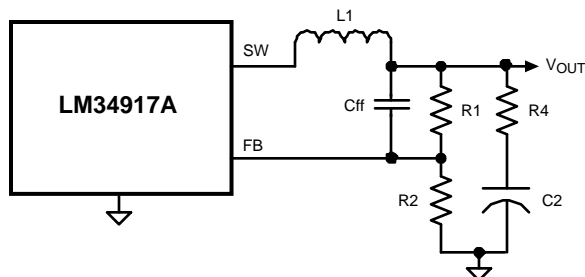

Figure 18. Reduced Ripple Configuration
**a) Alternate #1:** In Figure 18, R3, C7 and C8 are removed, and Cff and R4 are installed, resulting in a higher ripple level than the circuit of Figure 15. Ripple is created at  $V_{OUT}$  by the inductor's ripple current passing through R4. That ripple voltage is AC coupled to the FB pin through Cff, allowing the minimum ripple at  $V_{OUT}$  to be set at 25 mVp-p. The minimum ripple current amplitude ( $I_{OR(min)}$ ) is calculated by re-arranging Equation 11 using  $t_{ON(max)}$  and  $V_{IN(min)}$ . The minimum value for R4 is calculated from:
**b) Alternate #2:** In Figure 19, R3, C7 and C8 are removed, and R4 is installed, resulting in a higher ripple level than the circuits of Figure 15 and Figure 18. Ripple is created at VOUT by the inductor’s ripple current passing through R4. That ripple voltage is coupled to the FB pin through the feedback resistors (R1, R2). Since the LM34917A requires a minimum of 25 mVp-p ripple at the FB pin, the ripple required at VOUT is higher than 25 mVp-p by the gain of the feedback resistors. The minimum ripple current (IOR(min)) is calculated by re-arranging Equation 11 using tON(max) and VIN(min). The minimum value for R4 is calculated from: